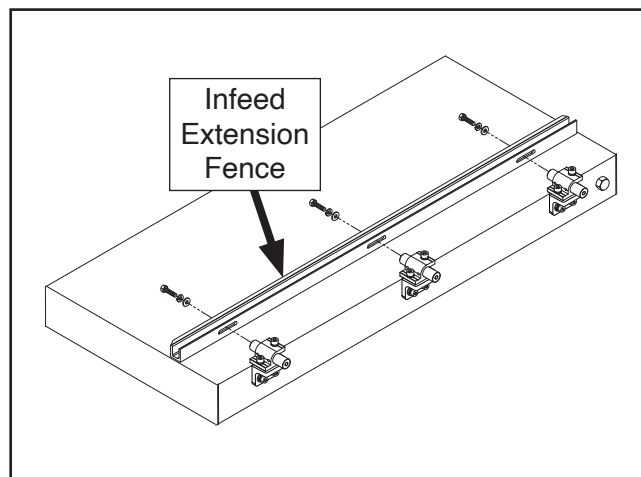

**Figure 15.** Attaching infeed extension fence to fence adjustment rods (machine and table support removed for clarity).
11. Attach infeed extension fence to fence adjustment rods with (3) M8-1.25 x 16 hex bolts, (3) 8mm lock washers, and (3) 8mm flat washers (see **Figure 15**).